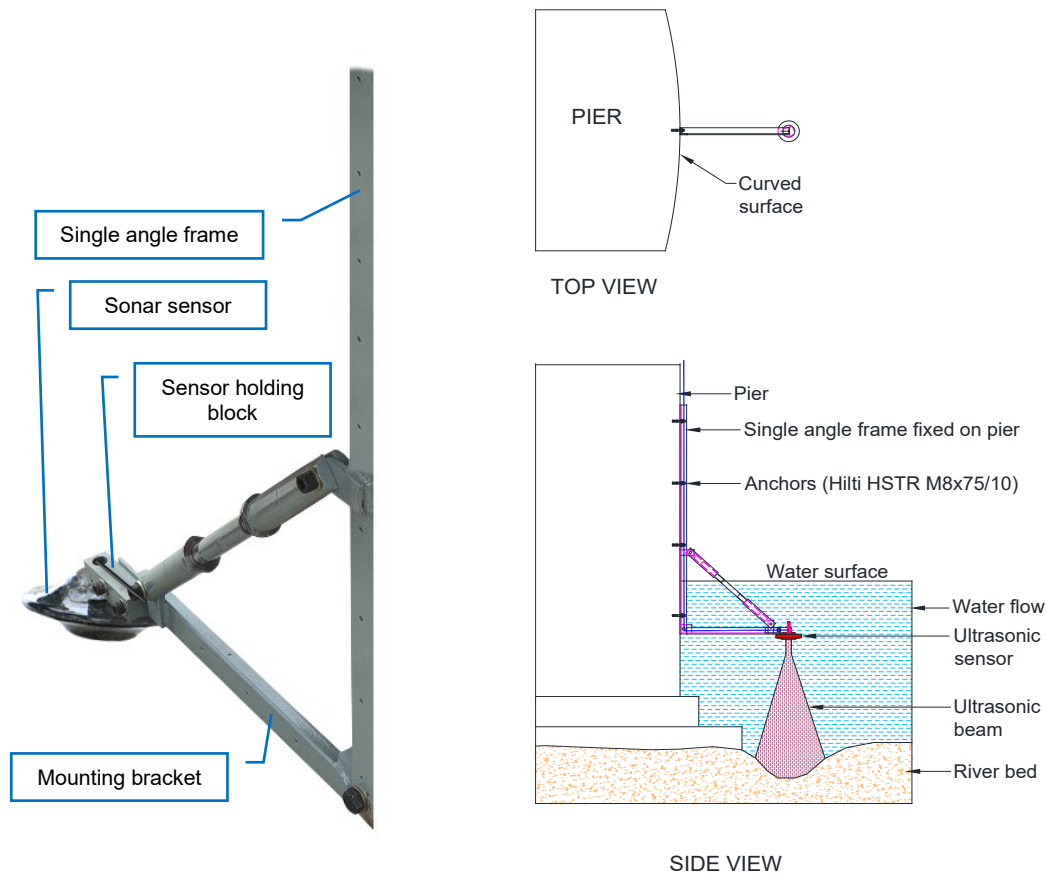

Figure 6: Single angle mounting frame for curved surface
- On curved surface, use single angle frame for mounting the sensor as shown in figure 6. Mounting arrangement on installation location will be same as on flat surface as discussed in section in 4.2.